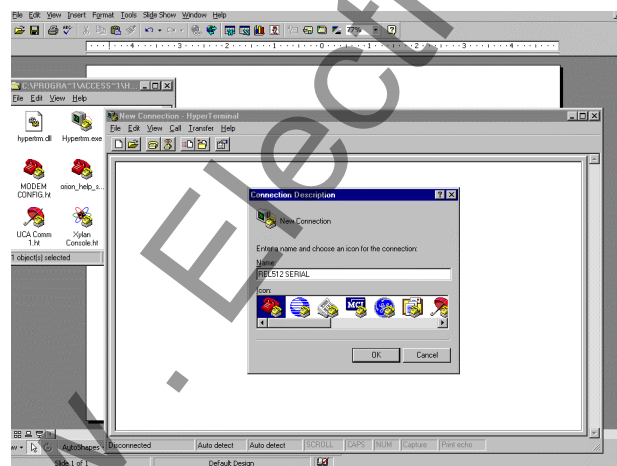

Figure 34 – Hyperterminal Setup Screen
2. Select the icon labeled Hyperterminal.exe The screen illustrated in Figure 34 should be visible. The operator will be prompted for a name as illustrated.